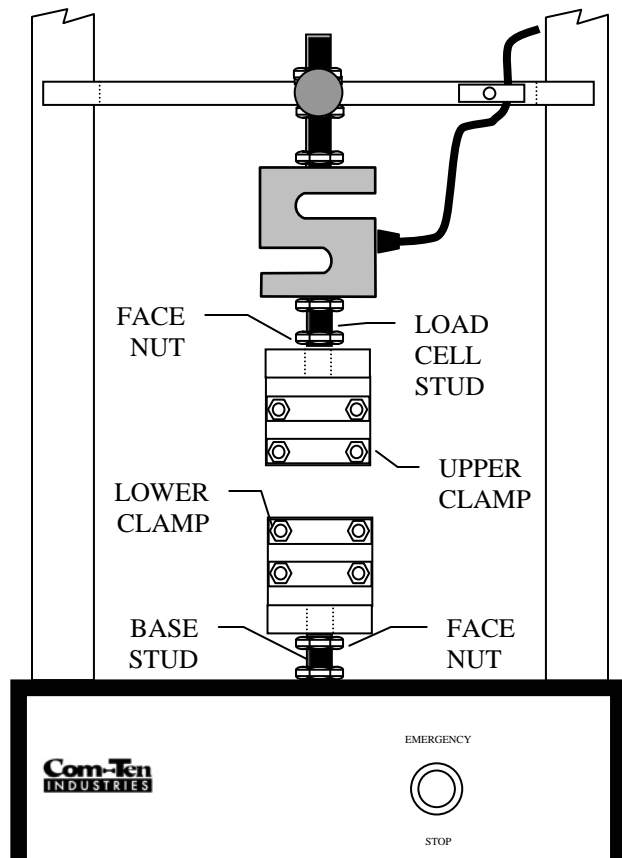

Figure 4.7 – CLAMP INSTALLATION
1. Refer to Figure 4.7 – CLAMP INSTALLATION below. Turn the Test Stand and ComTouch ON. Set the Direction Switch to UP.